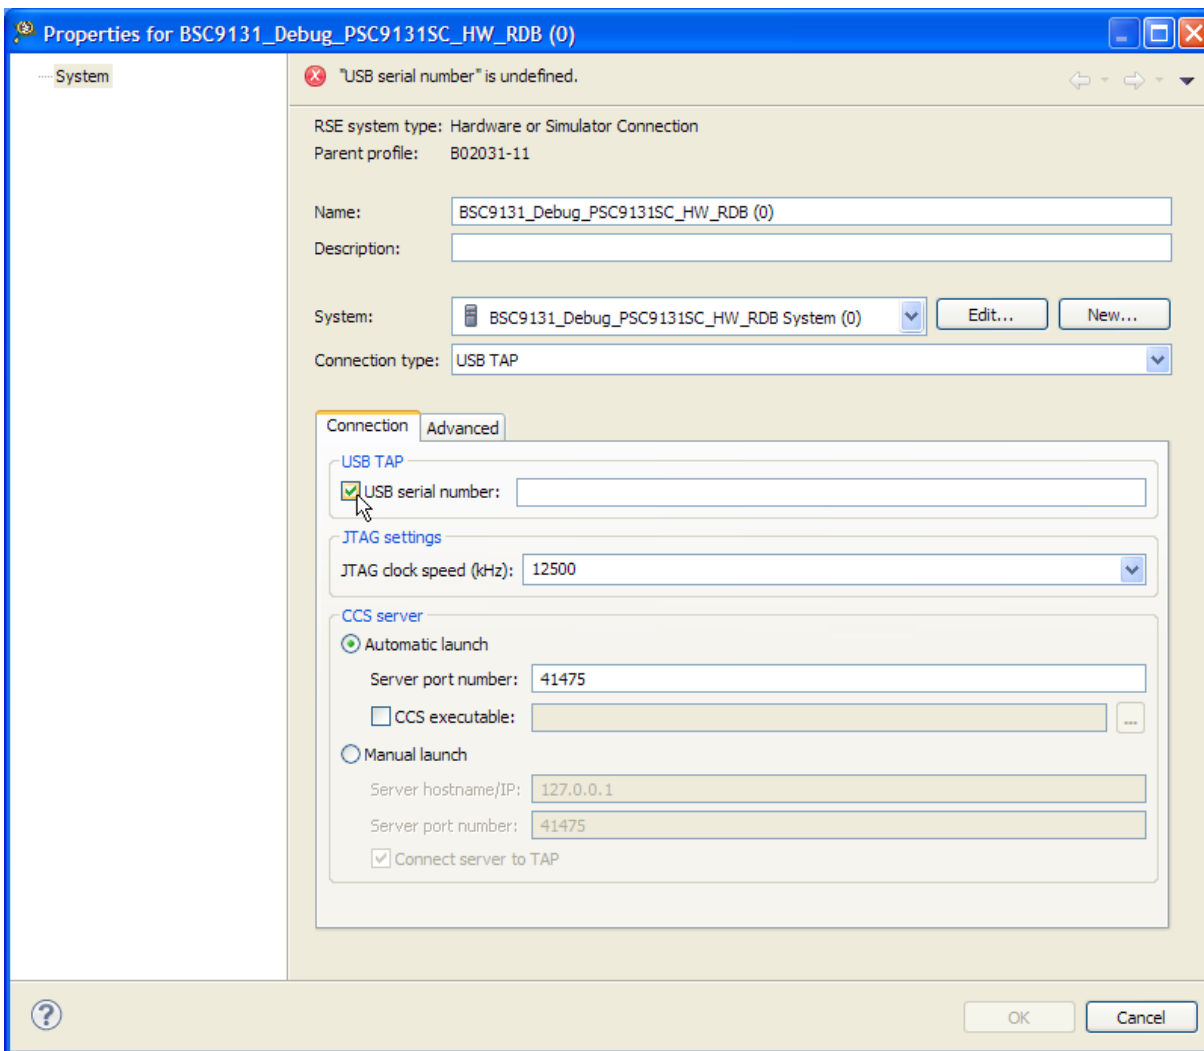

Figure 15. Properties window for the BSC9131 debug configuration
The **Properties for BSC9131_Debug_PSC9131SC_HW_RDB (0)** window appears (Figure 15).